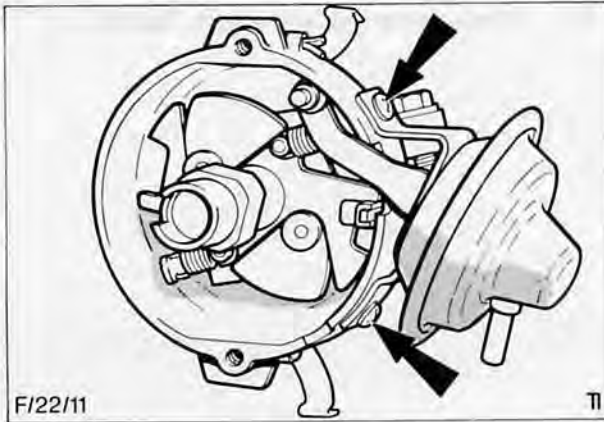

Fig. 53. Vacuum unit securing screws (Motorcraft distributor)
3. Remove two screws retaining vacuum unit to body and detach unit, Fig. 53.